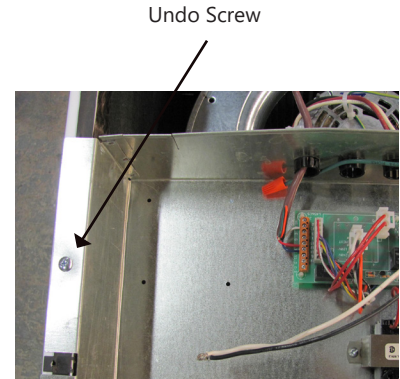

Fig. 5a - Undo Screw
5. Remove all thermostat and power wiring from the air handler. Undo screw on circuit box and remove box from air handler. (Fig. 5a)